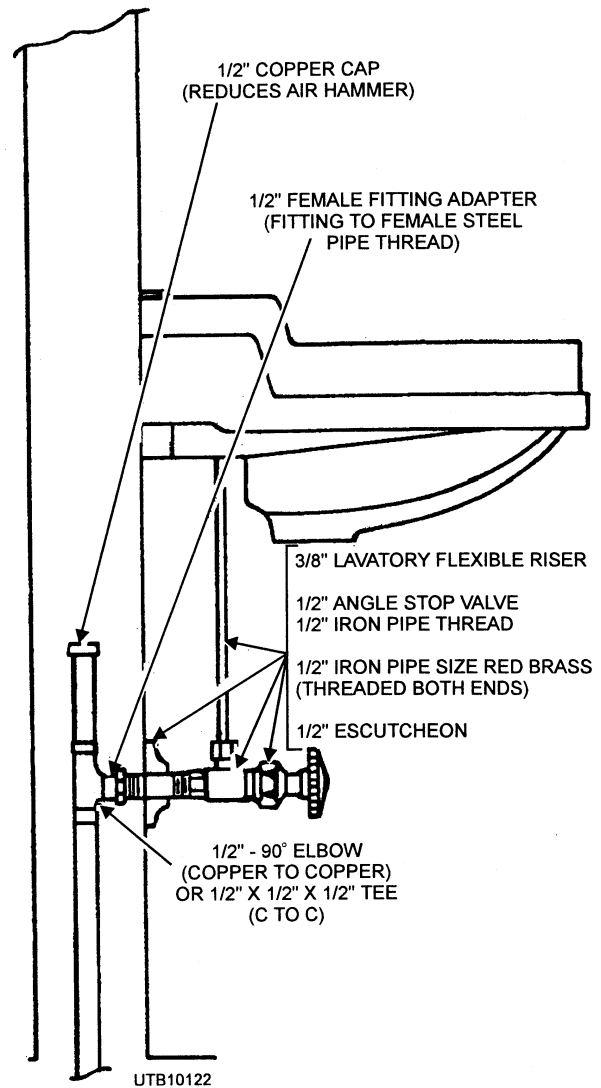

Figure 5-20.—Lavatory water-supply-lines hookup.
5. Connect the water-supply lines, as shown in figure 5-20, to the faucets.